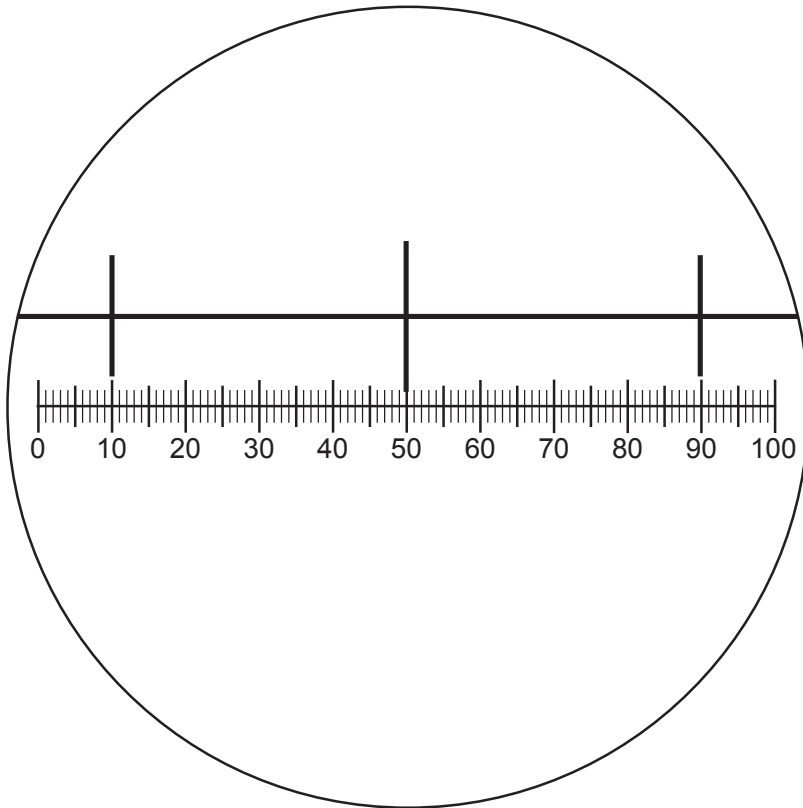

Fig. 2.2
- (c) Fig. 2.2 shows a diagram of a stage micrometer scale that is being used to calibrate an eyepiece graticule.
- (i) Use Fig. 2.2 to calculate the actual length of one eyepiece graticule unit.